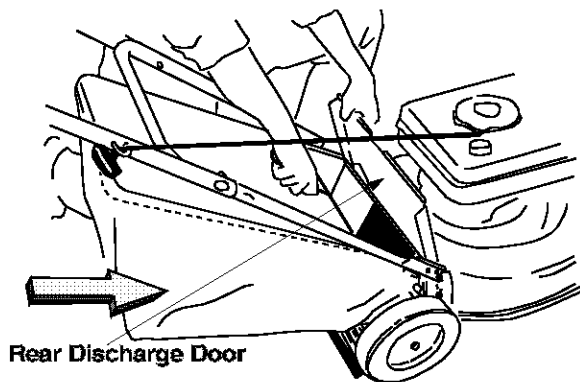

Figure 9
- Place the hooks of the grass catcher into the slots in the handle bracket assemblies on both sides. See Figure 9. Release the rear discharge door.